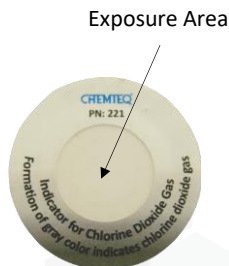

Figure 1
- c. Remove area monitor from the packaging pouch (Figure 1).